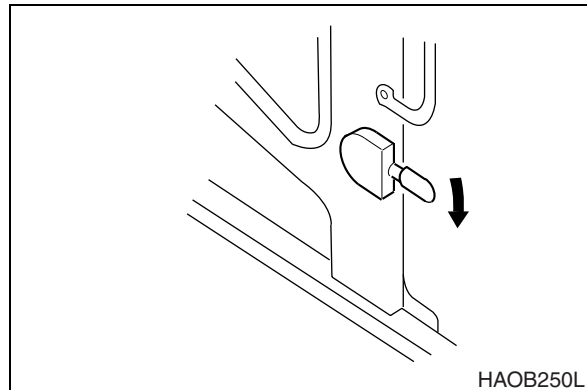

Figure 101
2. To release door from side of cab, push the latch lever (Figure 101) down. The latch lever is to the left of the operator's seat.